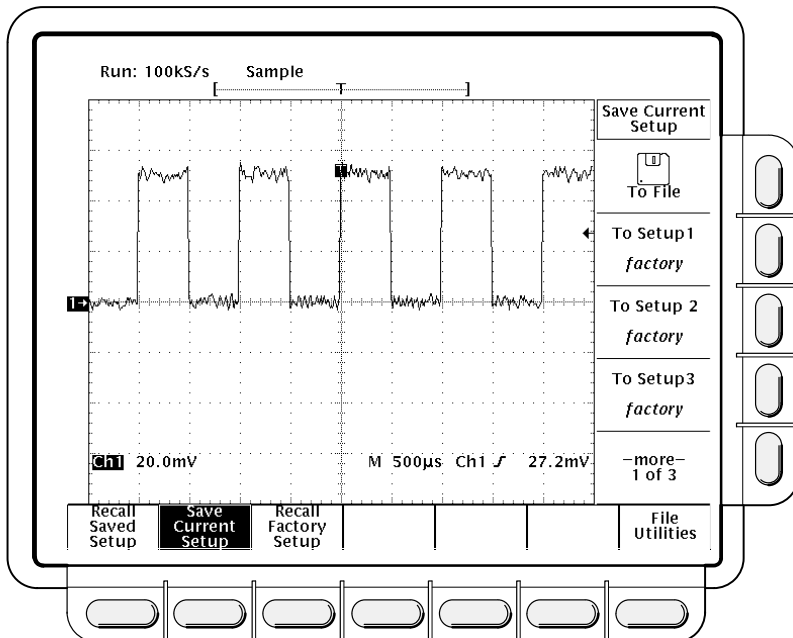

Figure 3-63: Save/Recall Setup Menu
2. To store to a setup internally, choose one of the ten internal storage locations from the side menu **To Setup 1**, **To Setup 2**, ... (see Figure 3-63). Now the current setup is stored in that location.